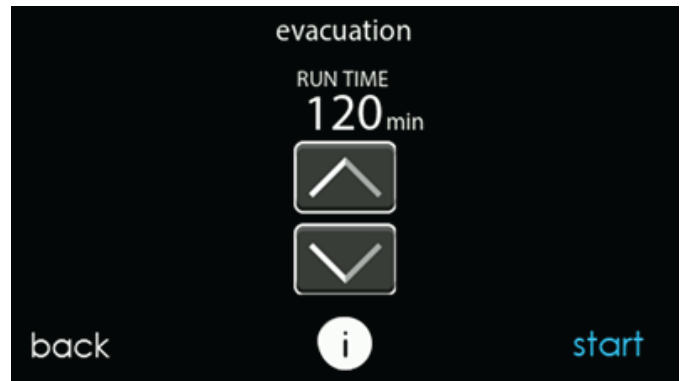

Fig. 27 – Evacuation Setup Screen
3. Set desired time period. Default time period for the procedure is 20 minutes. See Fig. 27.